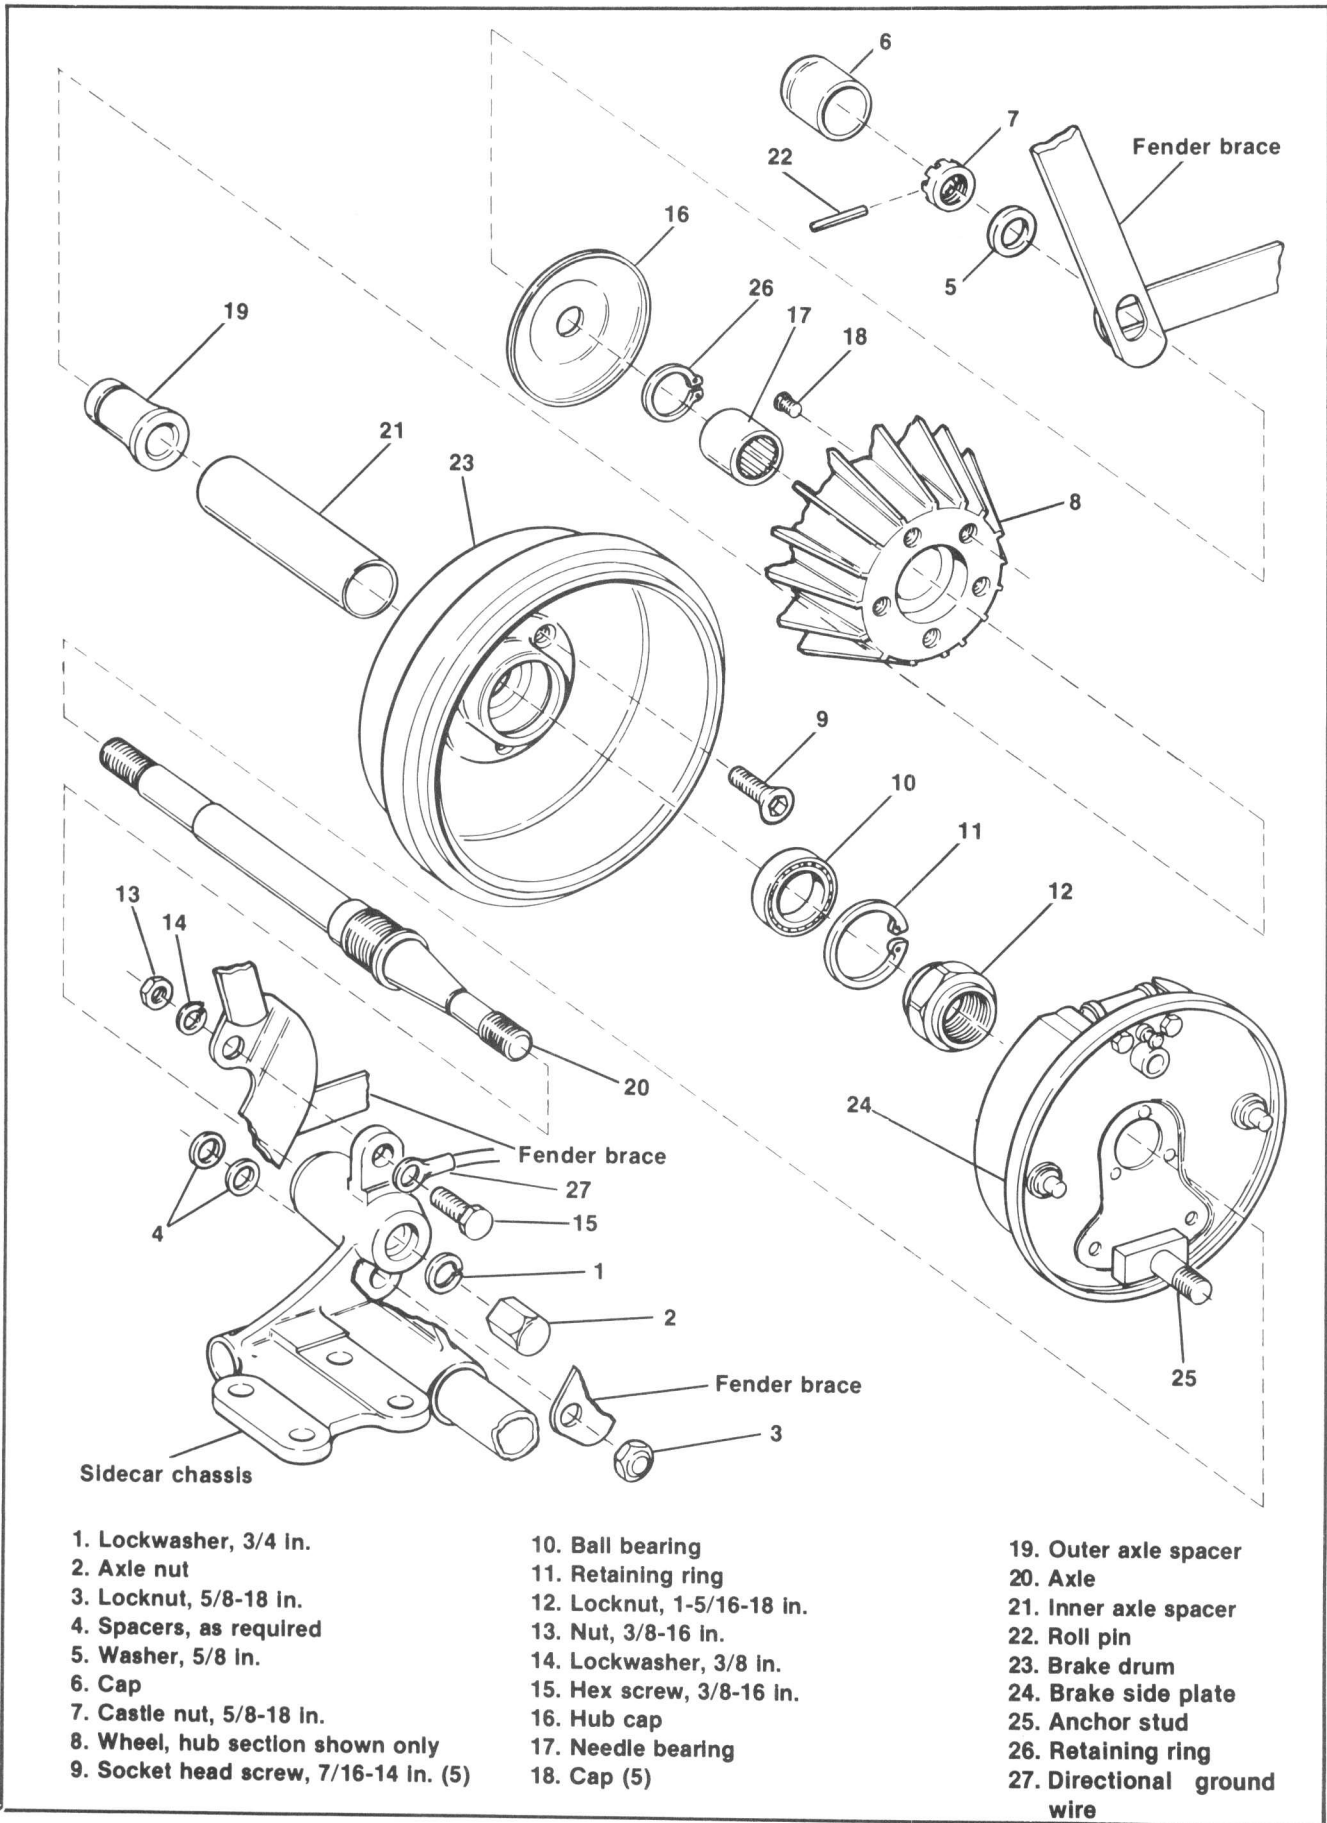
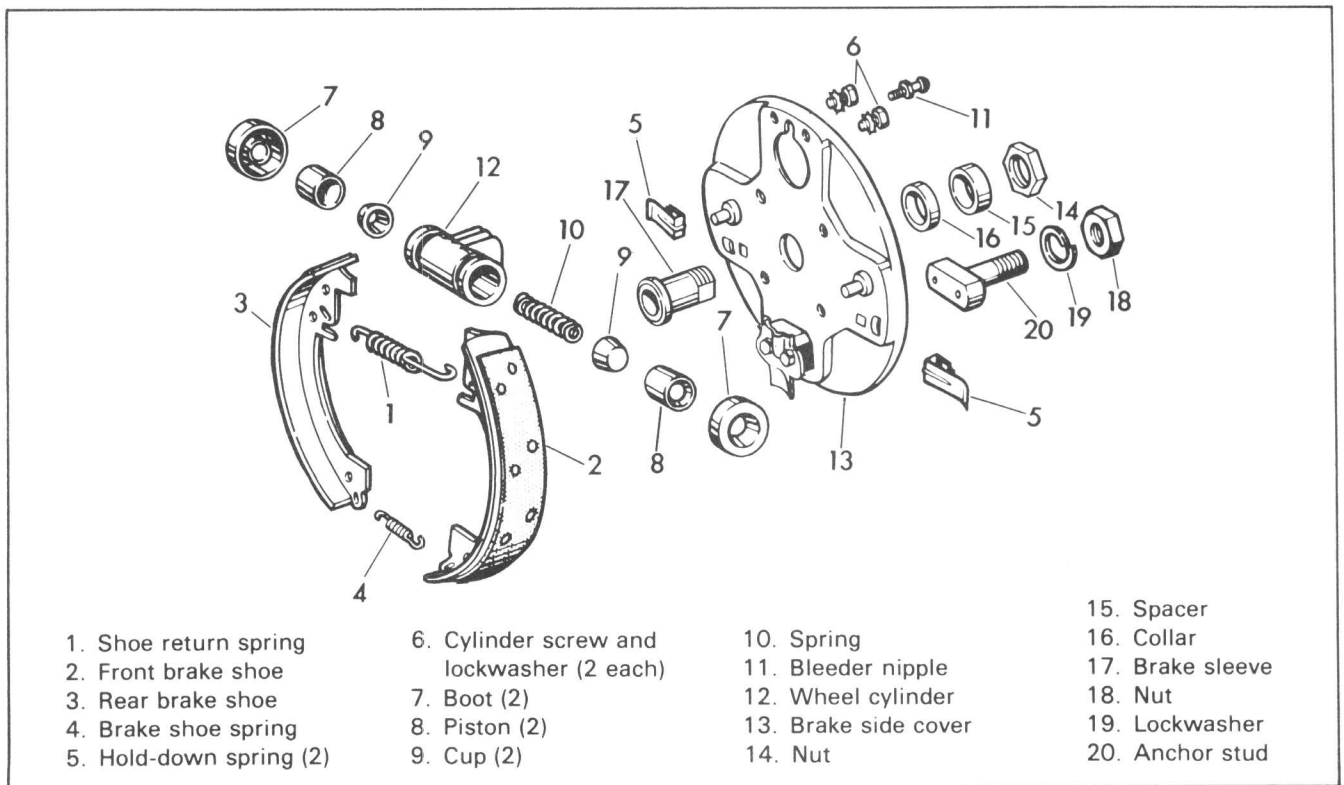

Figure 3-2. Wheel Exploded View
Figure 3-3. Drum Brake Exploded View
2. See Figure 3-2. Remove axle cap (6), roll pin (22) and axle nut (7).
1. See Figure 3-3. Inspect brake shoes (2) and (3) for wear. Replace both brake shoes if brake lining thickness is 3/32 in. or less.
2. To remove brake shoes, remove hold-down springs (5) and springs (1) and (4).
6. See Figure 3-2. Remove five bolts (9) that attach brake drum to wheel.
7. Protect or remove retaining ring (11) and bearing (10) from brake drum before machining brake drum.
9. After machining, check inside diameter (ID) of brake drum. The maximum ID permissible is 8.060 in. If the ID is greater than 8.060 in., replace the brake drum.
10. See Figure 3-3. Check the wheel cylinder for leakage by lifting the boots (7). If brake fluid is present, disassemble the wheel cylinder.
11. Remove old boots (7), pistons (8), cups (9) and spring (10). Be sure cylinder wall and pistons are free from burrs. Dip replacement parts in brake fluid and assemble. Never dip or wash hydraulic brake cylinder parts in gasoline, kerosene or oil. If necessary to clean parts use denatured alcohol.
ASSEMBLING DRUM BRAKE (Figure 3-3)
Inner Bearing (Figure 3-2)